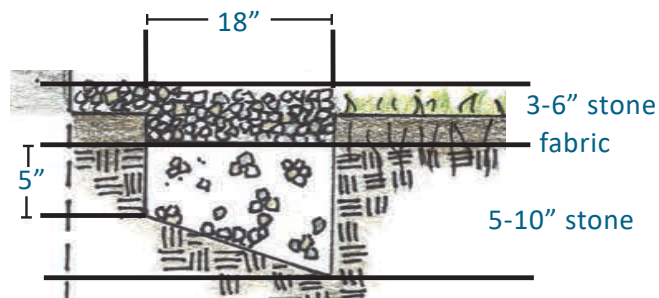

Figure 1 – Profile for well drained soils.
**STEP 1 – Dig a trench** at least eight inches deep between the outside and inside boundary lines marked along the perimeter of your house. Slope the bottom of the trench away from the house so that water will drain away from the foundation (Figure 1).
**For Well Drained Soils:** Fill the trench with stone. Fill the trench with 1/2- to 1 1/2-inch washed stone until it is about three inches below the ground level. Place a piece of non-woven geotextile fabric over the stone layer and fill the remaining three inches with additional stone (Figure 1).